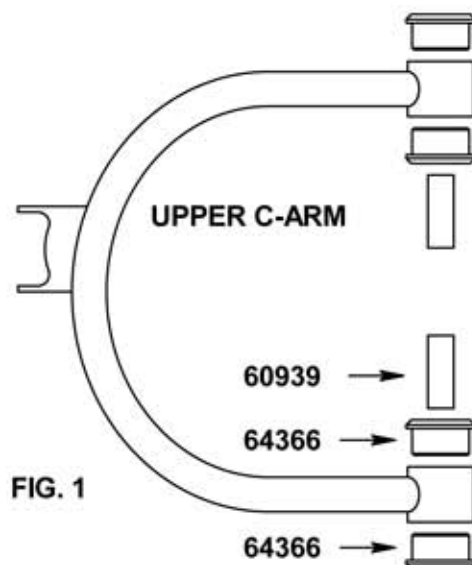

FIG. 1
- 4) Install the new polyurethane bushings 64366 into the arm using plenty of Prothane™ Super Grease. (See Fig. 1)